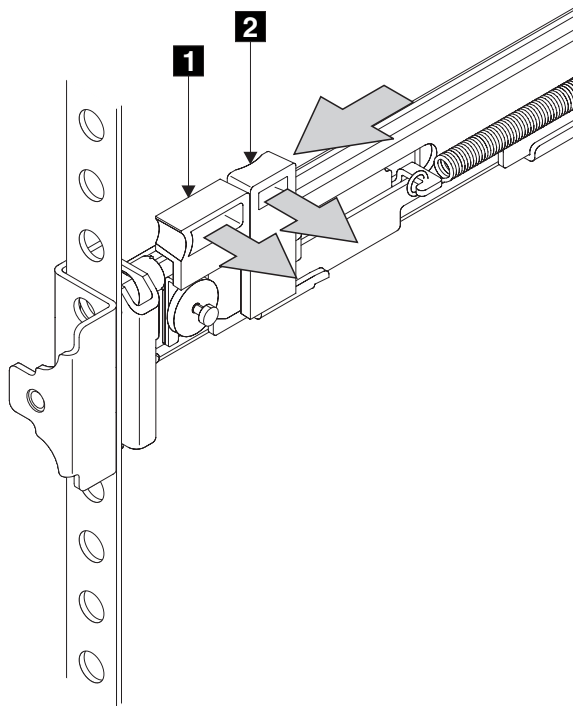

Figure 117. Closing the latch-lock carrier assembly
8. Push the latch lock **2** (Figure 117) away from the rail to release the carrier. The latch-lock carrier slides toward the front of the rack and the locating pins project through the holes that are in the front flange and in the front rail bracket.